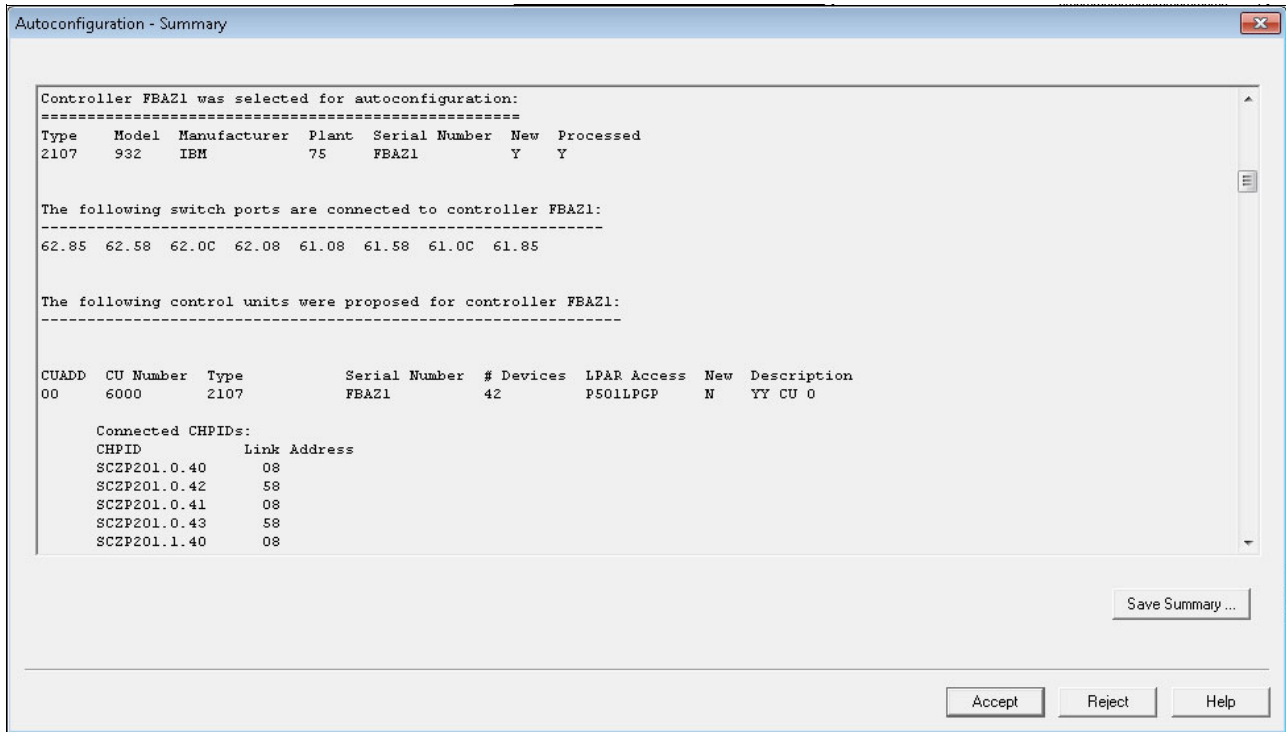

Figure 4-57 HCM - Autoconfiguration: summary report
5. HCM issues an Autoconfiguration - Summary report that can be saved to your workstation. Click **Accept** to include these discovered control unit and device definitions into the IODF, or **Reject** if you want to cancel the inclusions (Figure 4-57 on page 156).